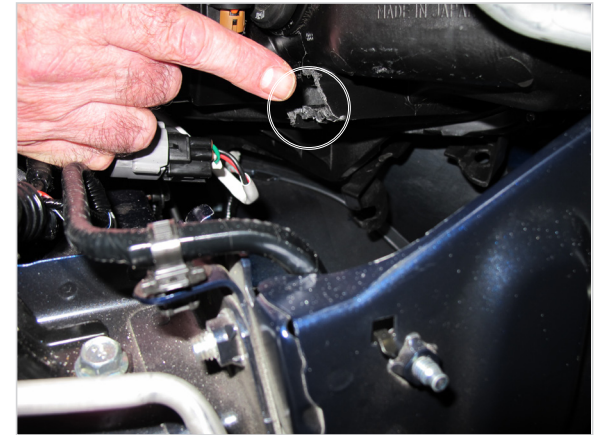

Fig. 2B
- M. With a one-inch drum grinder [in a drill or Dremel], remove 80-90% of the cradle. See Fig. 2B.